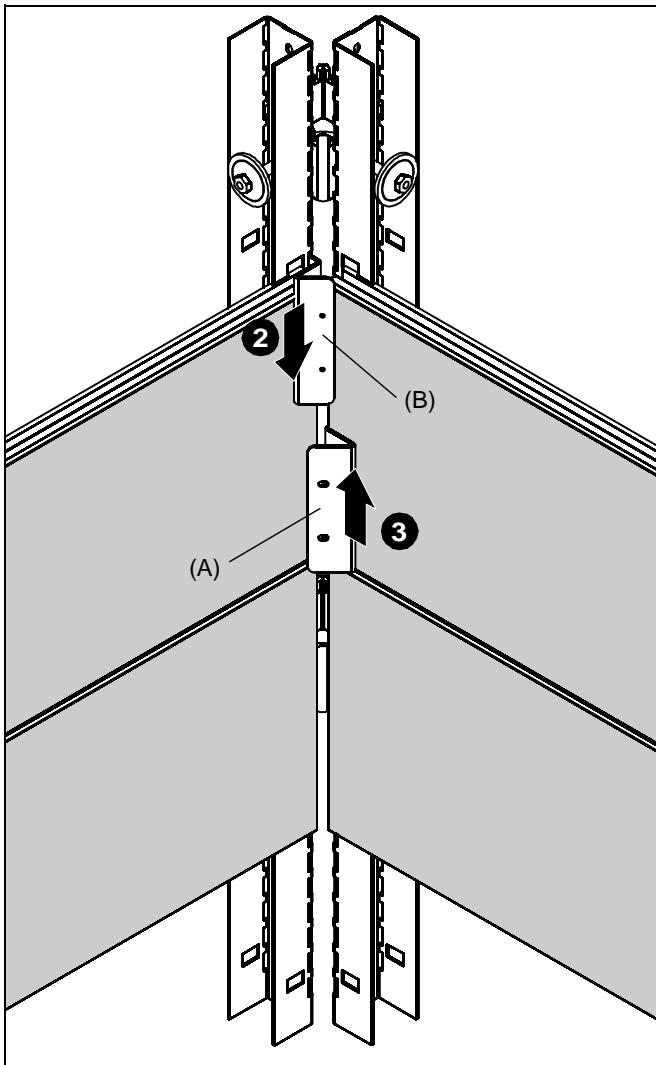

Figure 1
2. Orient wall bracket (B) (Tabs facing DOWN). (See Figure 1)
3. Orient wall bracket (A) (Tabs facing UP), slide up and over wall bracket (B) and install five tabs on each wall bracket (A) and (B) into five slots in wall support. (See Figure 1)